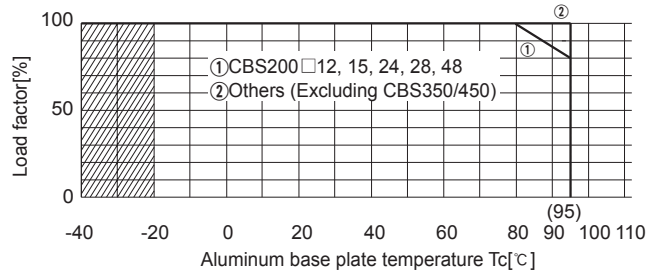

Fig.6.6 Derating Curve Characteristics
Derating curve characteristics with respect to aluminum base plate temperature are shown in Fig. 6.6. Measure the temperature of the base plate in a location away from direct airflow (A). Note that operation within the hatched areas will cause a significant level of ripple and ripple noise.